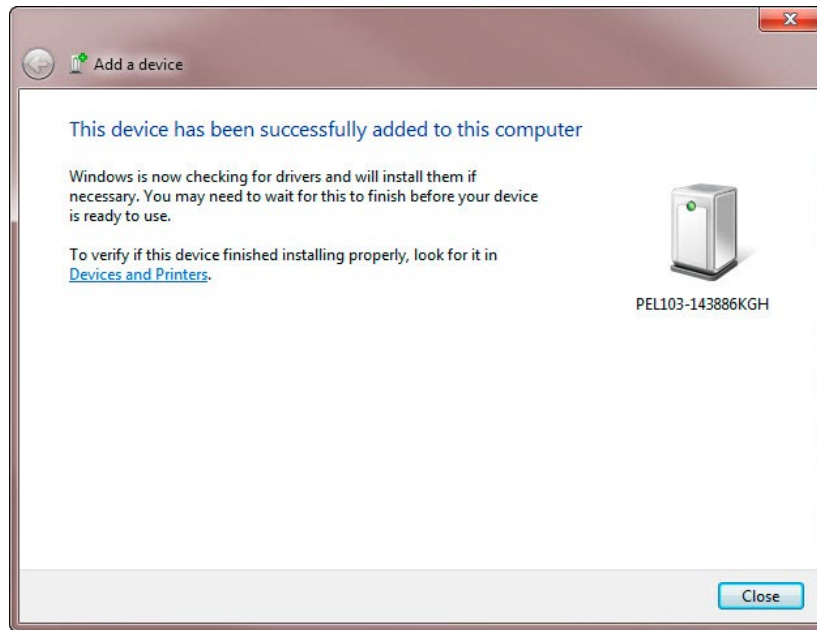

Figure 11
6. Once the instrument has been successfully added to the computer, a window similar to Figure 11 will be displayed. Select “Close”.